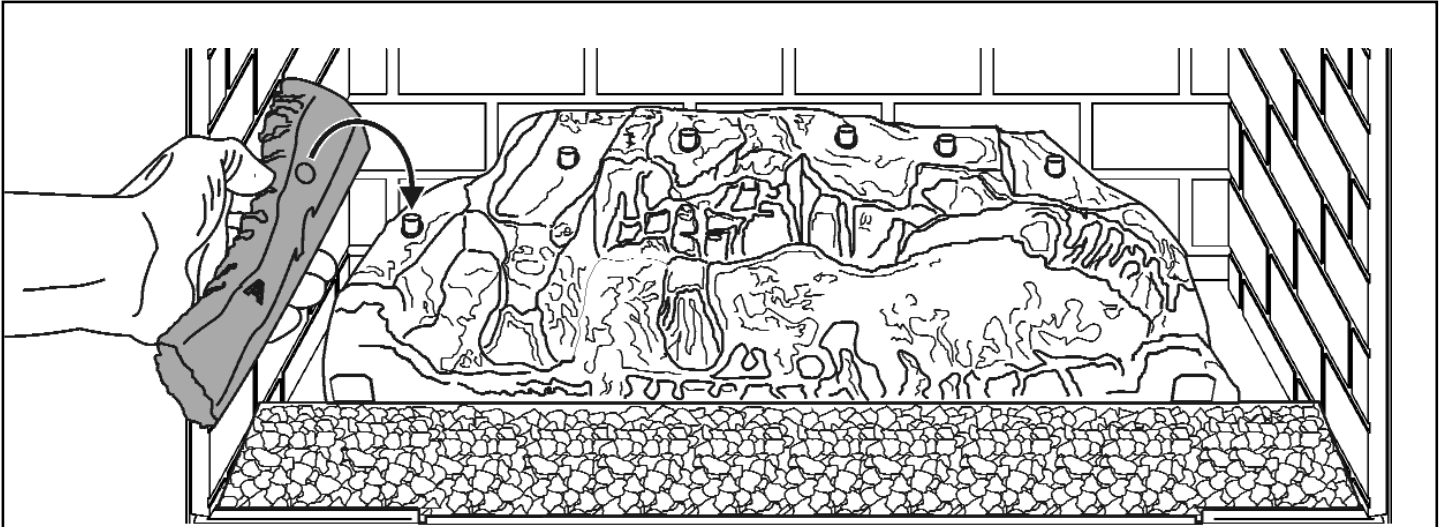

Figure 4. Fitting log 'A'.
4. Remove log 'A' from its protective packaging and position it as shown in figure 4. Locate the hole in the base of log 'A' onto the peg on top of the rear base. The bottom left side of the log should lie against the ceramic side wall.